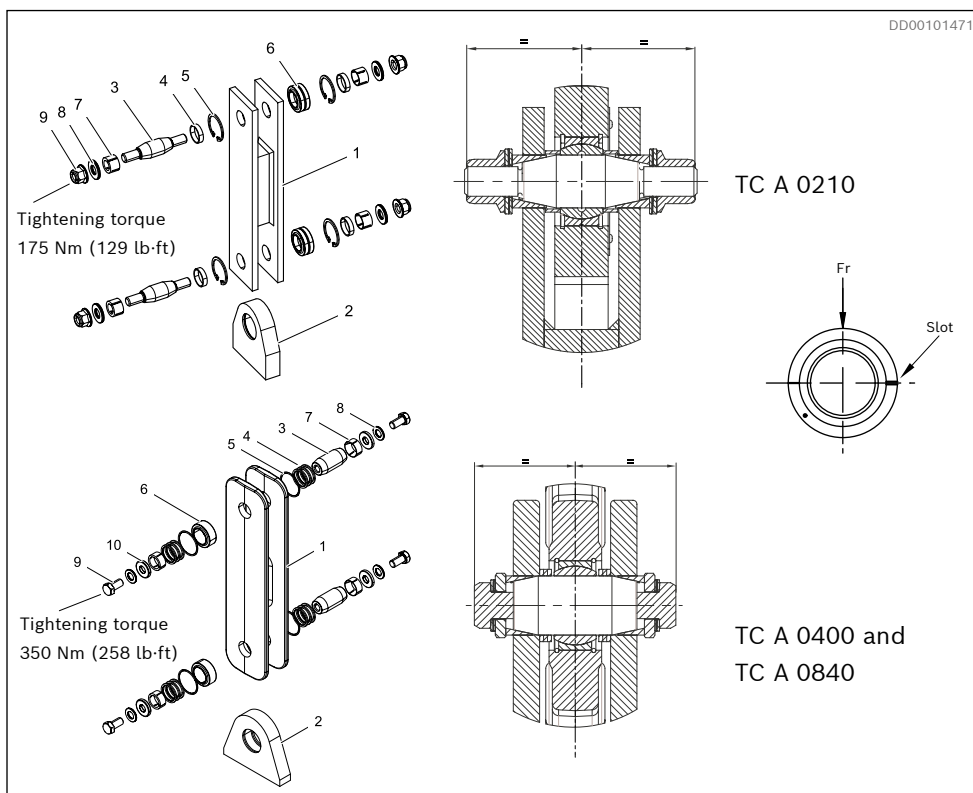

Fig. 24: Heavy duty articulated connection for TC A
1. The bearing (6) shall be mounted by using a mounting sleeve or tube applied on the bearing outer ring.
2. The bearing (6) shall be mounted with the slot in the outer ring perpendicular towards the load direction. See Fig. 24.
3. Lock the bearings (6) with the circlips (5).
4. Grease the sleeves (7) and shaft (3) with grease available, preferably graphite grease. Do not grease the threads.
5. Insert the shaft (3) and then the supporting sleeves/disc rings (4) and position the shaft (3) in the bores. Make sure the shaft is centered, see Fig. 24. Install the sleeves (7), and for TC A 0400/0840 washers (10), then wedge lock washers (8) and nuts /screws (9). Tighten the nuts/screws acc. to Fig. 24